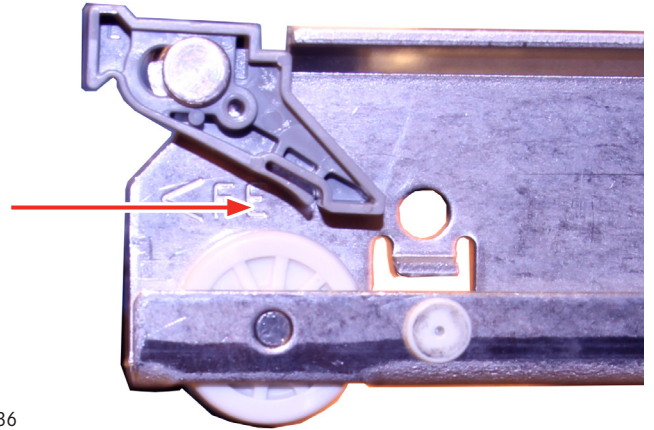

Fig. 36
2. Gently set the drawer rails back onto the rollers on the end of the drawer sliders, and push the drawer in until completely closed (Fig. 36).